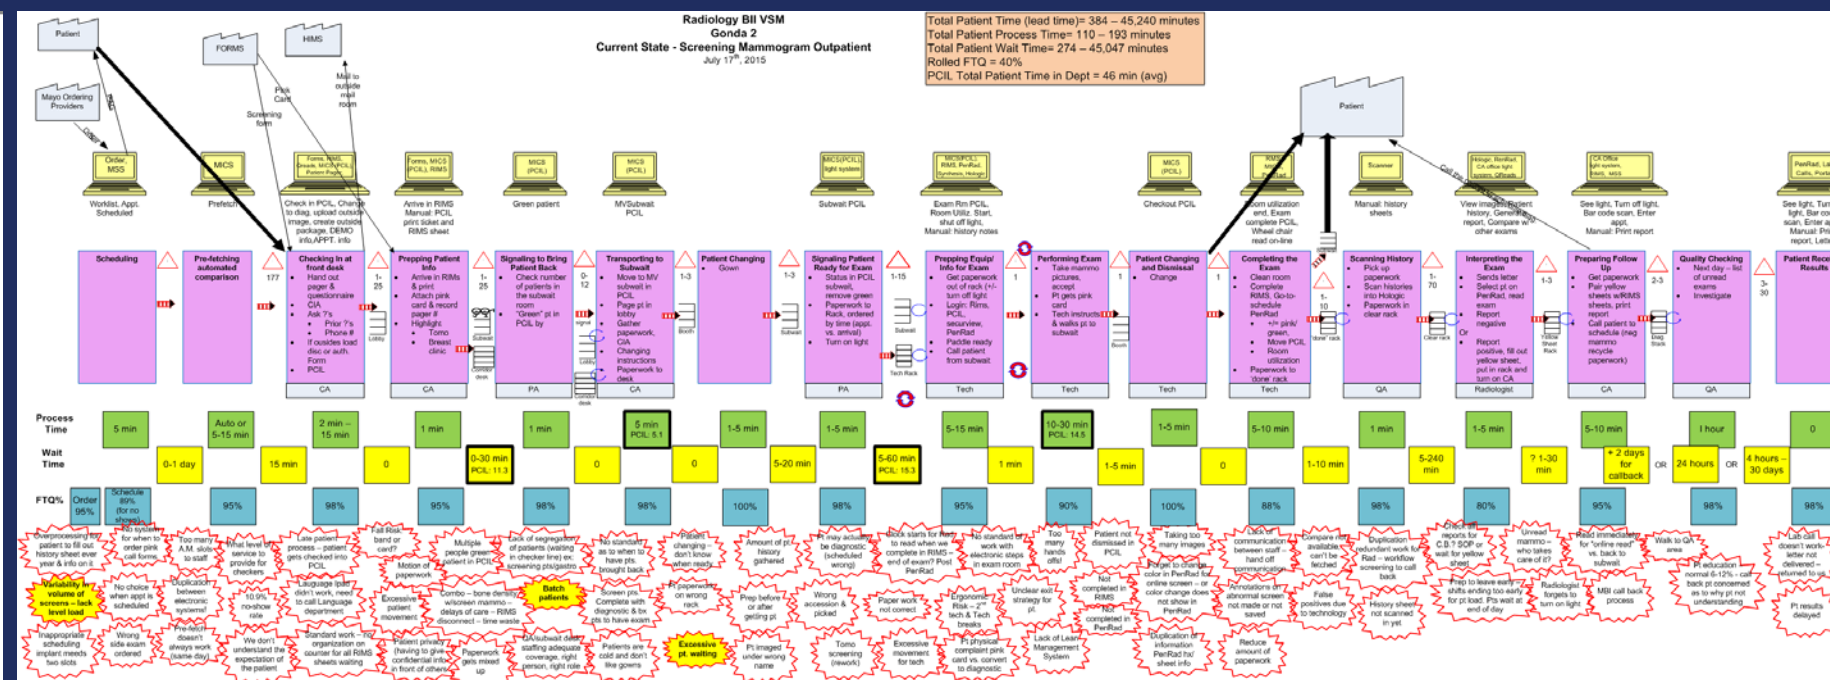

Figure 3
- The spaghetti chart in Figure 3 shows waste related to walking, waiting and hand-offs. The previous workflow involved a clinical assistant or CA (blue lines) batching patients (purple lines) from the lobby to the subwait, having patients use changing booths, sit and wait in subwait chairs and finally being escorted to the mammogram room by a technologist (green lines).